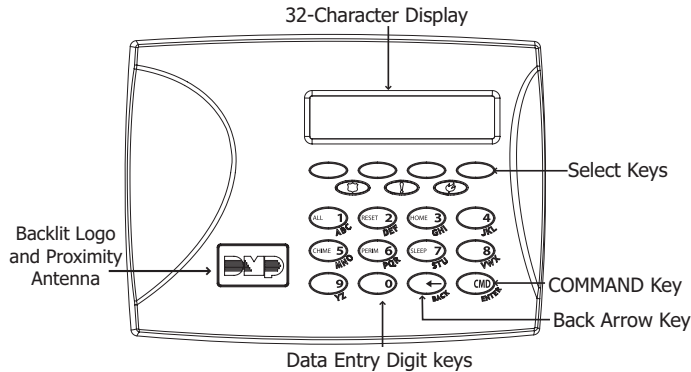

Figure 11: 9000 Series Wireless Keypad
**On Wireless, Thinline and Aqualite keypads**, when instructed to press the first select key, press the far left select key; the second select key is the second from the left; third select key is second from the right; and the fourth select key is the far right key. See Figure 11.